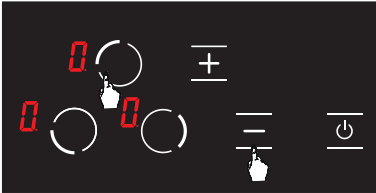

Figure 25
2. Press upper left hob selection key () and minus key () simultaneously. (see Fig. 25) You shall hear a short warning signal at this time. Then, remove your fingers from the stove control panel.